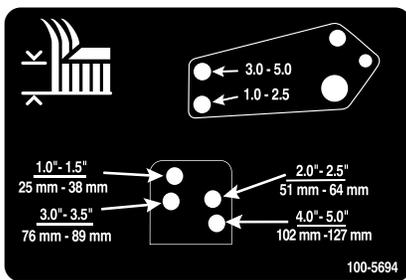

Figure 29
10. Align the damper-link holes with the selected height-of-cut bracket holes in the mower-deck frame, insert the clevis pins, and install the hairpin coppers (Figure 29).